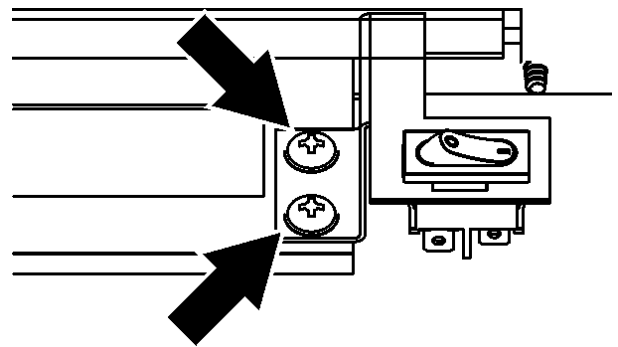

Figure 37. On/Off switch removal
9. Remove the two screws that hold the On/Off switch bracket to the front of the gas valve bracket (See figure 37).